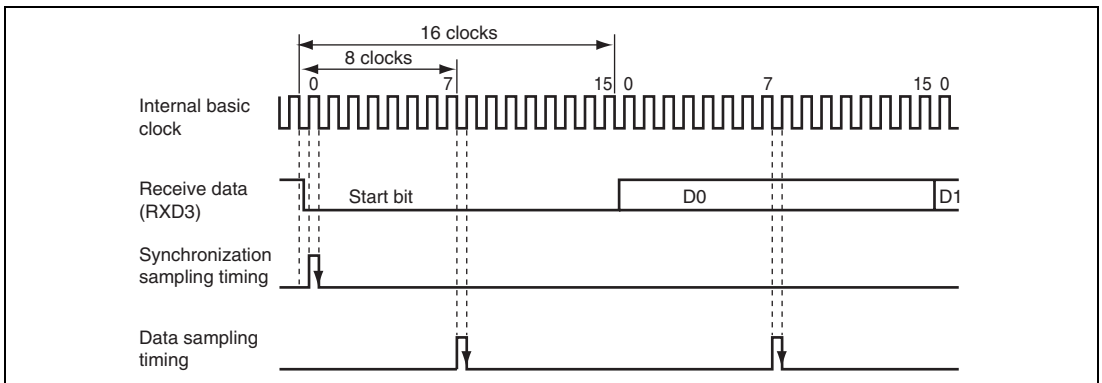

Figure 17.22 Receive Data Sampling Timing in Asynchronous Mode
In asynchronous mode, the SCI3 operates on a basic clock with a frequency of 16 times the transfer rate (8 times the transfer rate when the ABCS bit in SEMR is set to 1). In reception, the SCI3 samples the falling edge of the start bit using the basic clock, and performs internal synchronization. Receive data is latched internally at the rising edge of the 8th pulse of the basic clock (4th pulse of the basic clock when the ABCS bit in SEMR is set to 1*) as shown in figure 17.22. The reception margin in asynchronous mode is given by formula (1) below.